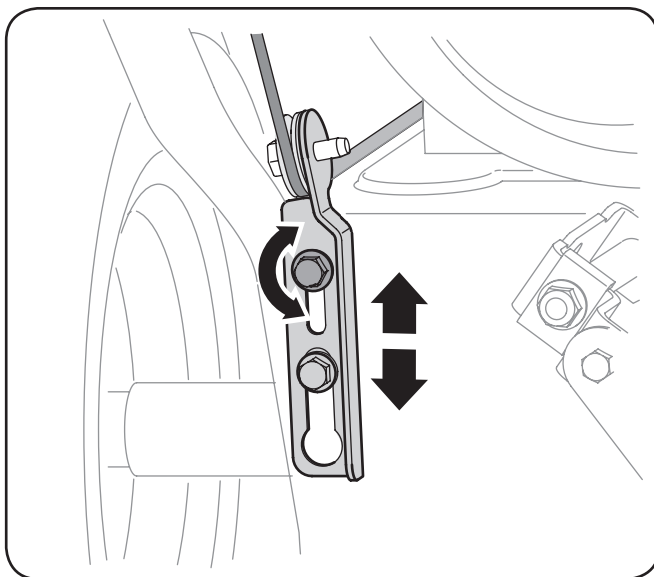

Fig. 3-15
4. Allow the auger to remain engaged for approximately ten (10) seconds before releasing the auger control. Repeat this several times.
7. To readjust the control cable, loosen the upper hex screw on the auger cable bracket. Position the bracket upward to provide more slack (or downward to increase cable tension). See Fig. 3-15.